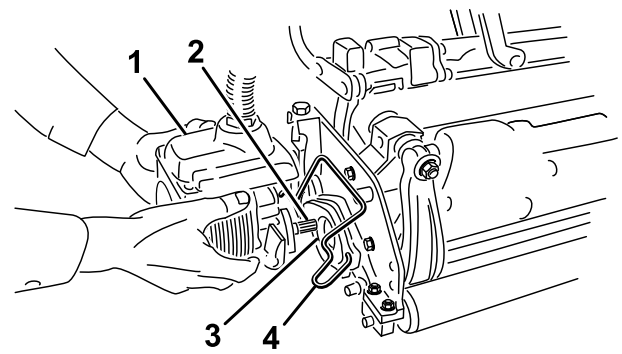

Figure 37
6. Coat the spline shaft of the cutting unit motor with clean grease (Figure 37).
7. Insert the motor into the left side of the cutting unit (as viewed from the operator's position) and pull the motor retaining bar on the cutting unit toward the motor until you hear an audible “click” from both sides of the motor (Figure 37).